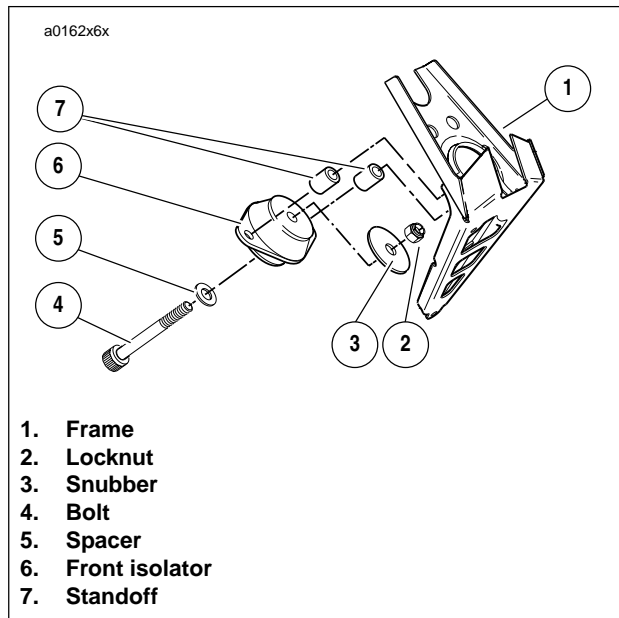

Figure 3-2. Cylinder Head Bolts
See Figure 3-2. Do not attempt to remove isolator mount from cylinder head. Isolator mount is an integral component and is not meant to be removed unless absolutely necessary. Repeated removals and installations will damage cylinder head threads.
9. See Figure 3-2. Remove the two mounted cylinder head bolts from the front isolator/engine bracket marked "DO NOT REMOVE". See note above.